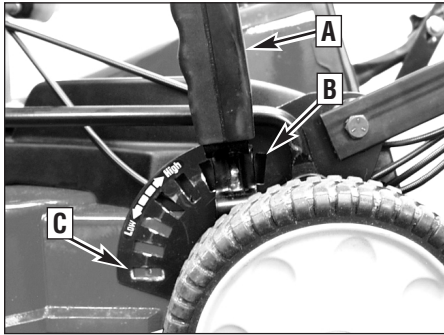

Figure 4-6: Cutting height adjustment.
- a. To adjust cutting height, pull the Cutting Height Lever (A, Figure 4-6) away from the mower to release the tab from the slot. Be sure to grip the lever firmly to prevent the mower deck from dropping down rapidly.
- b. While pulling the lever away from the mower, move the lever towards the back of the mower (B, Figure 4-6) for a higher cut or towards the front of the mower (C) for a lower cut.